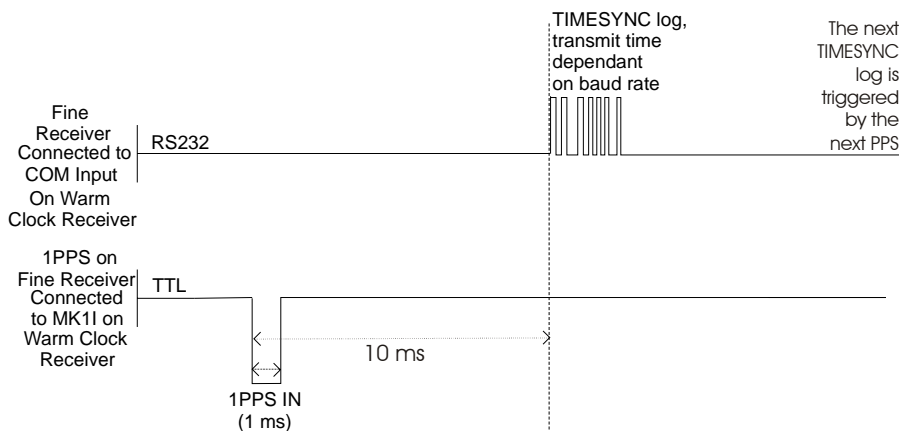

Figure 1: 1PPS Alignment
Figure 1 shows the 1PPS alignment between a Fine and a Cold Clock receiver. See also the **TIMESYNC** log on *Page 279* and the *Transfer Time Between Receivers* section in *Volume 1* of this manual set.
- b. It is presumed that the TIMESYNC log, see *Page 279*, was issued by a Master GPS receiver within 1000 ms, but not less than 800 ms, of the last 1PPS event, see *Figure 1, 1PPS Alignment on Page 41*. Refer also to the *Transfer Time Between Receivers* section in *Volume 1* of this manual set.